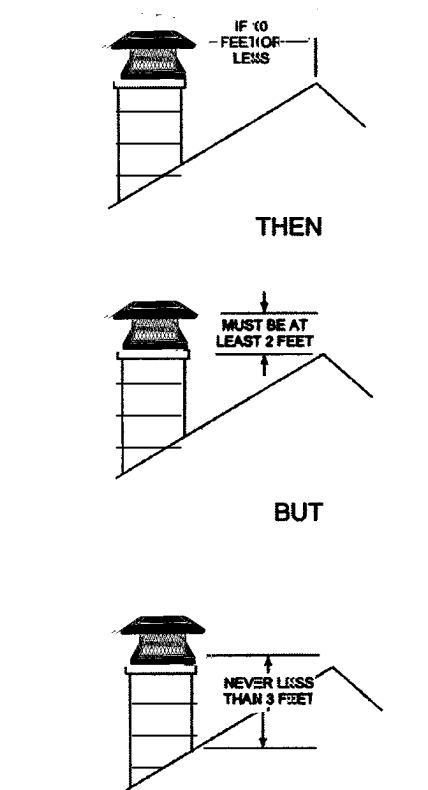

**Figure 3. Roof Penetration**
A. Measure to all sides of the nail and mark the required opening, then cut a hole in the roof. Remember that the hole is measured on the horizontal, then projected to the roof. The hole may then be larger, depending on the pitch of the roof. See Figure 3.